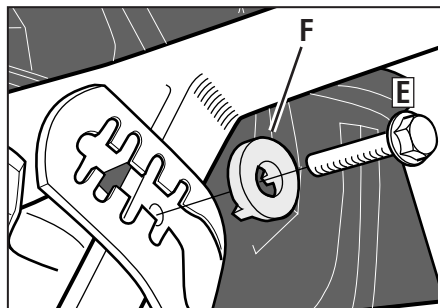

Figure 3-3: Handlebar height adjustment.
3. Loosen the height adjustment screw (E, Figure 3-3) and pull the keyed washer (F) free of the slots in the curved height adjustment bracket.